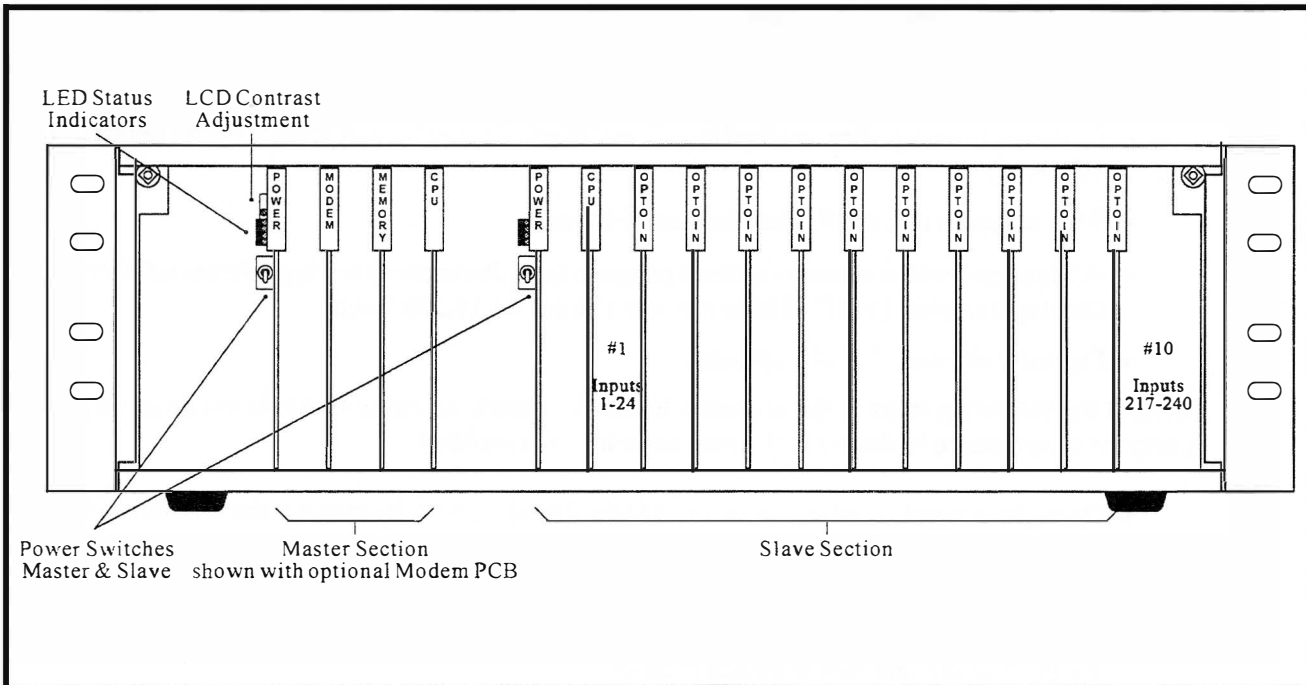

Figure 2
- Ensure that the power switch is in the off or down position. It is located towards the left side of the unit on the printed circuit board (PCB) labeled "POWER". Refer to Figure 2 for a view of the PCB layout and power switch location.
- Before completing the Initial Check-out procedure verify that the Liquid Crystal Display (LCD) is providing acceptable contrast. If it needs to be improved adjust the potentiometer on the Power Supply PCB located in the master section of the Model 240M chassis. Figure 2 illustrates the location of the contrast adjustment control.